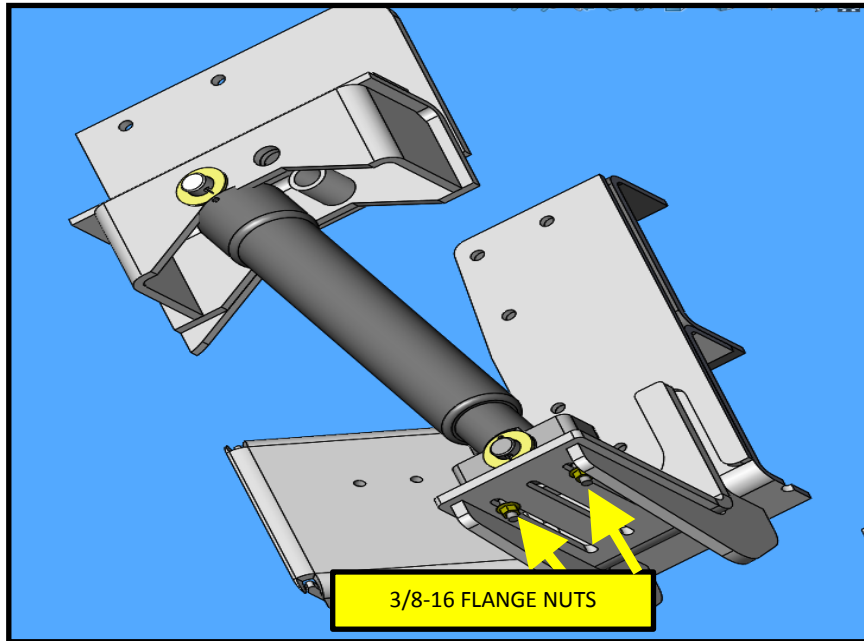

FIG 4-1
6. Loosen, but do not remove the 3/8-16 flange nuts under the lower mount foot. Refer to FIG. 4-1